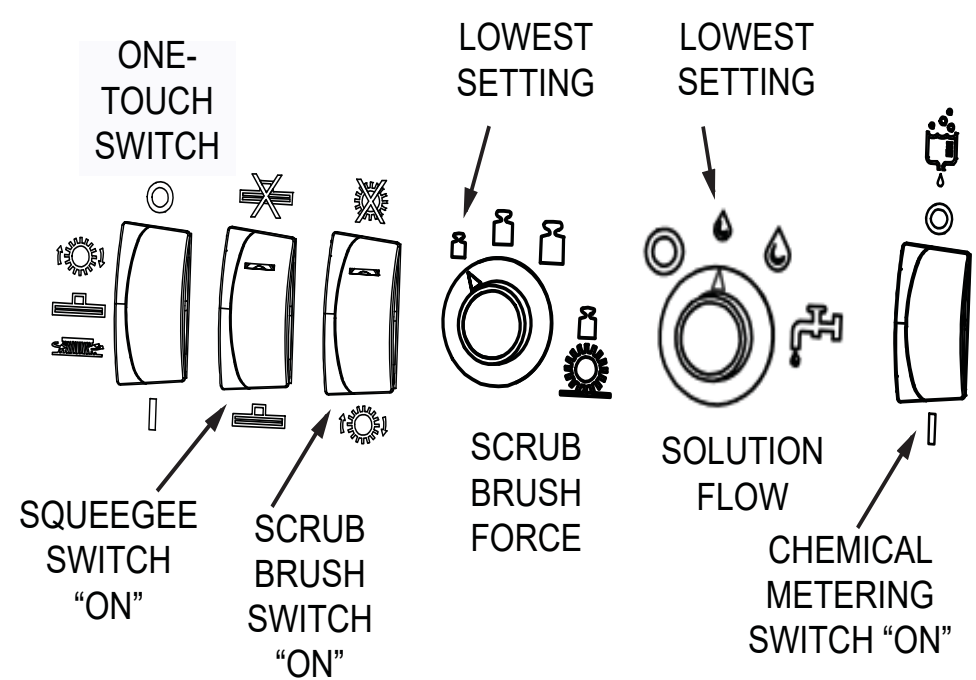

Fig. 1: Control Settings, before "One-Touch" selection
2. Ensure that the squeegee and brush switches (to the right of the green one-touch switch) are in the "on" position. Set the brush pressure switch to the lowest setting required for the scrubbing application. Set the solution control knob to the low flow position. (See Fig. 1)